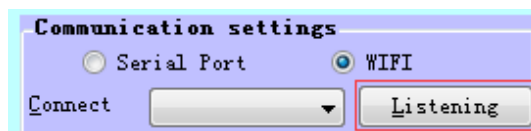

Figure 3.9: Monitoring In the Communication Setting Area
(7) Click button “Listening” in the communication setting area, as shown in figure 3.9.